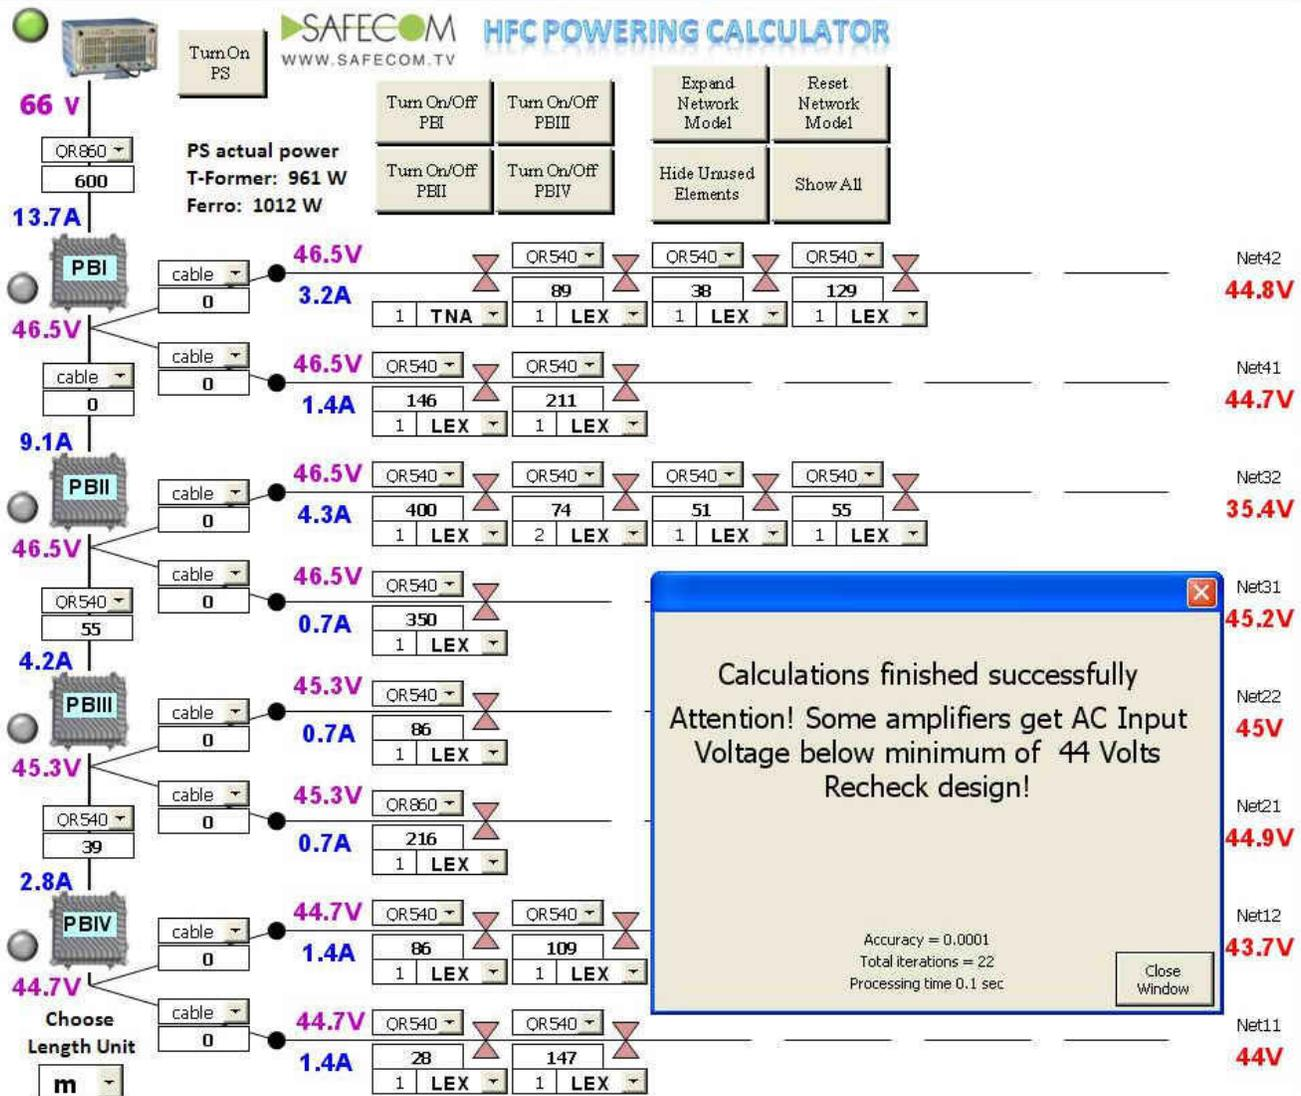

Fig.18 DPS backup results: low Voltage problem detected.
8. DPS backup calculation. Enter 600m span of cable QR-860 between backup PS and trunk amplifier. Press **Turn On PS** button. See Fig.18.